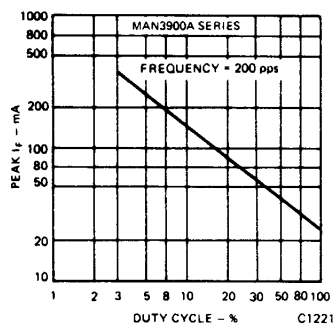

Fig. 3. Max Peak Current vs. Duty Cycle
2. The curve in Figure 3 is normalized to the brightness at 25°C to indicate the relative Luminous Intensity over the operating temperature range.